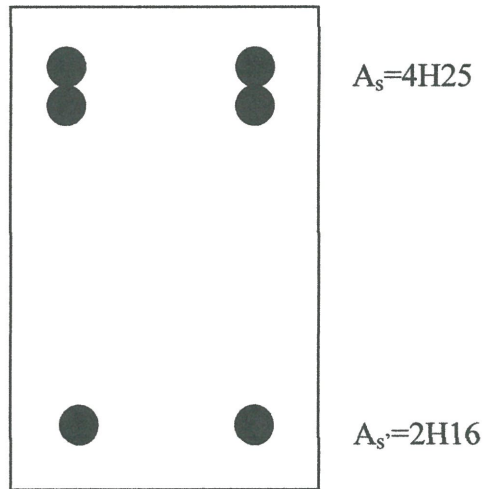

FIGURE Q1
- (c) A cross section of reinforced concrete beam is 250 x 450 mm as shown in Figure Q1. The tension and compression reinforcements provided are 4H25 and 2H16 respectively.